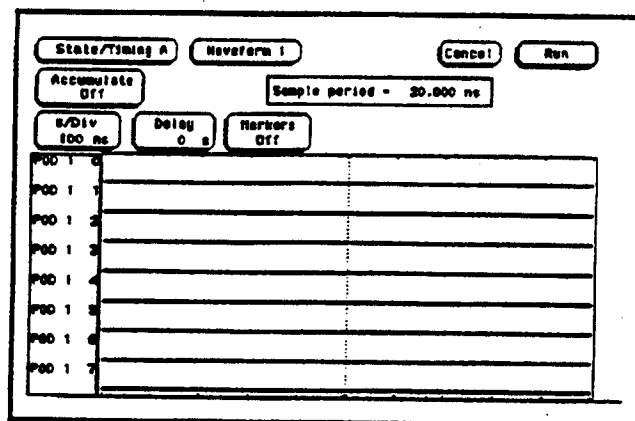

Figure 3-43. Waveform Screen
8. Touch Run. Data displayed on the Waveform screen should be all low for the channels under test as shown in figure 3-43.
13. Touch Run. Data displayed on the Waveform screen should be all low as in previous figure 3-43.
18. Touch Run. Data displayed in the Waveform screen should be all low for pod under test as in figure 3-43.